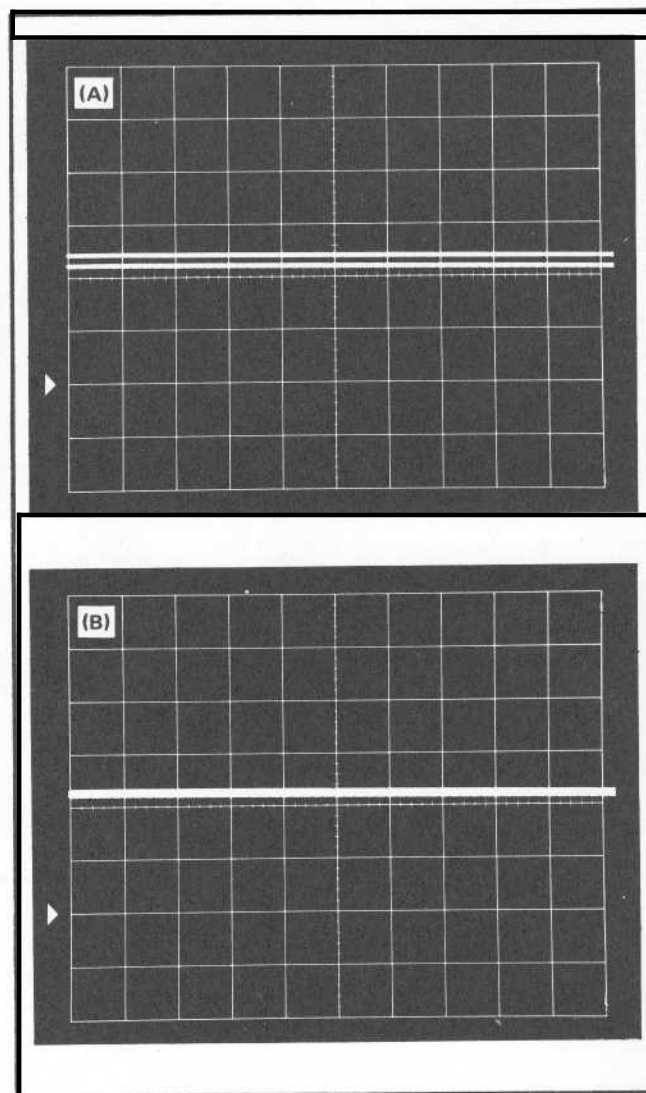

Fig. 5-6. Noise (Tangentially Measured). (A) CRT display showing noise and free running square wave. (B) CRT display showing the two noise bands merged.
c. Increase the Type 106 amplitude until two noise bands are observed (noise and free running square wave). Decrease the amplitude until the two noise bands merge (dark line between the noise bands just disappears). See Fig. 5-6. The final adjustment should be made slowly.